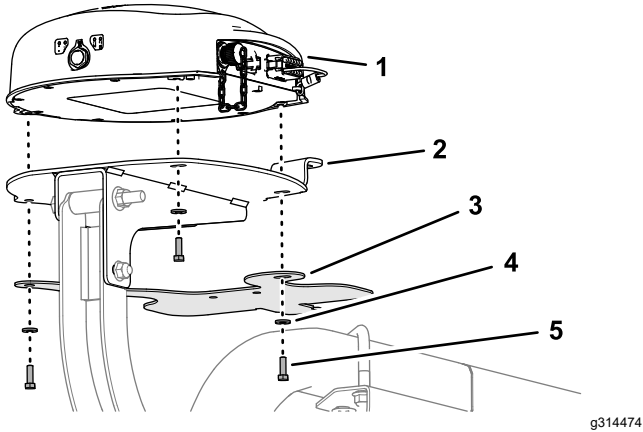

Figure 156
- Align the 3 threaded flanges in the base of the navigation receiver to the 3 holes in the receiver plate (Figure 156).
- Align the hole and slot in the modem-antenna bracket with the holes in the receiver plate (Figure 156).
- Assemble the navigation receiver and antenna bracket to the plate (Figure 156) with the 3 hex-head bolts (5 x 16 mm) and 3 washers (5 mm).